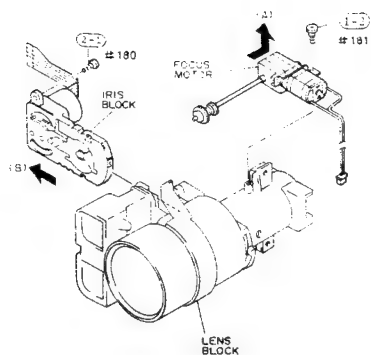

Fig. 2-103
- 2) Remove one (1) screw holding the focus motor. (See Fig. 2-103)
- 3) Remove the focus motor from the lens block in the direction of arrow (A).
- 1) Remove one (1) screw holding the iris block. (See Fig. 2-103)
- 2) Remove the iris block from the lens block in the direction of arrow (B).